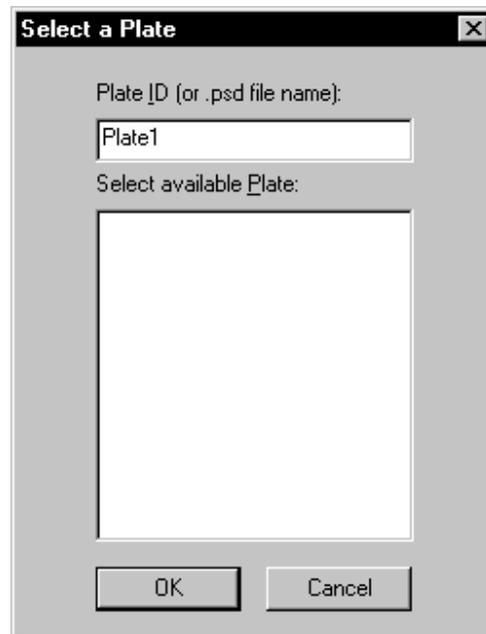

Figure 11-7. The Select a Plate window.
1. In the Instrument Control window, with the Inject Samples and Run protocol selected, click **Start**. The Select a Plate window appears (figure 11-7).